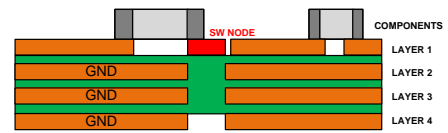

Figure 11. Cross Section Illustration of the Four Layer Board with Broken Ground Planes
3. A four-layer board with two ground planes as midlayers, but each has a rectangular cut right underneath the SW node, as illustrated in Figure 11.